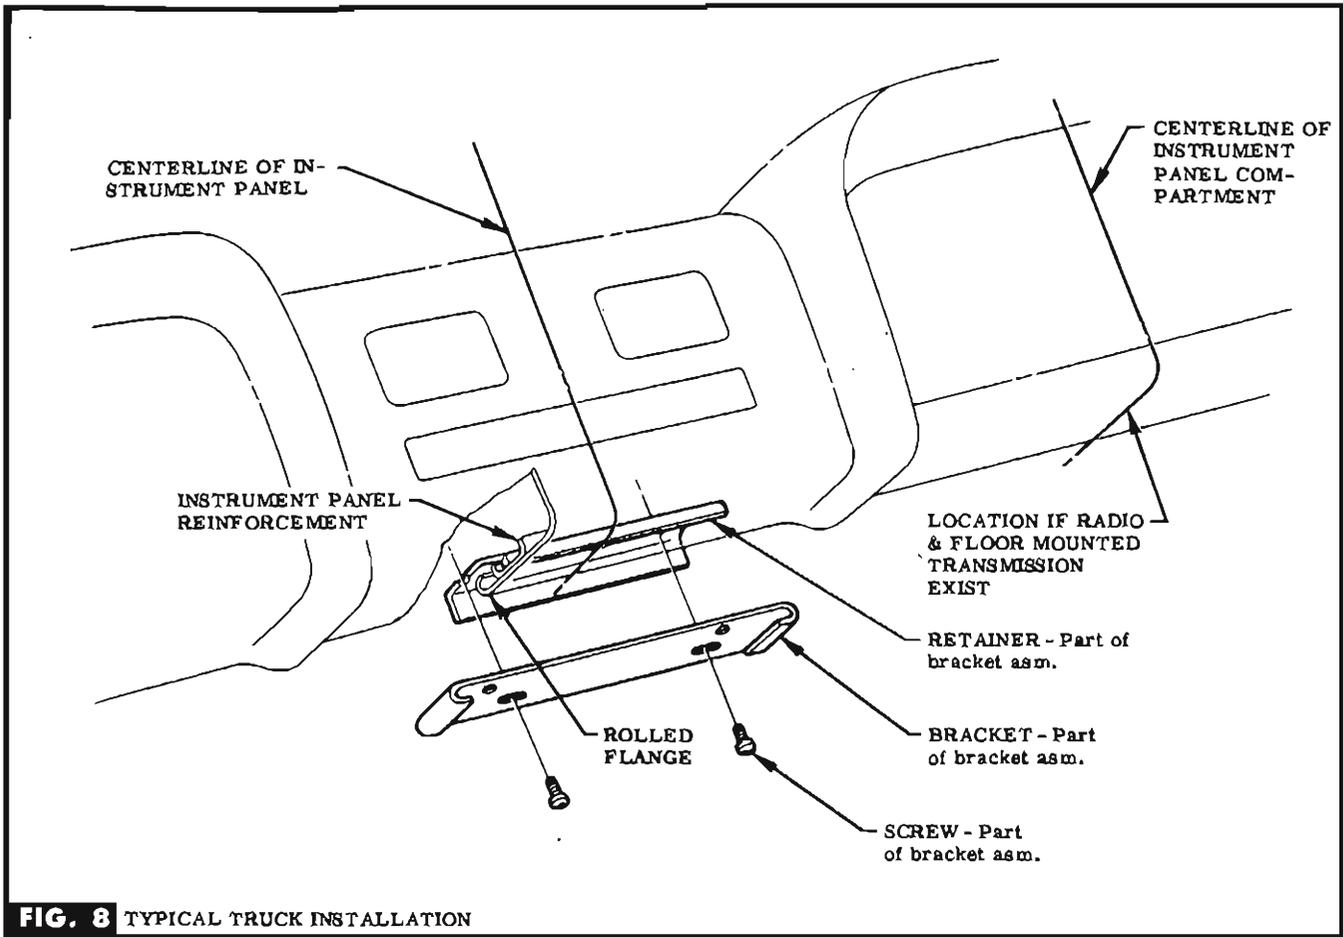

FIG. 8 TYPICAL TRUCK INSTALLATION
STEP 13 LOCATE BRACKET ASM. AT CENTERLINE OF INSTRUMENT PANEL & TIGHTEN ATTACHING SCREWS. SEE FIG. 8.
STEP 15 LOCATE CENTERLINE OF INSTRUMENT PANEL COMPARTMENT (SEE FIG.8.) & INSTALL BRACKET ASSEMBLY IN SAME MANNER AS TRUCKS WITHOUT RADIO OR FLOOR MOUNTED TRANSMISSION. SEE FIG.8.